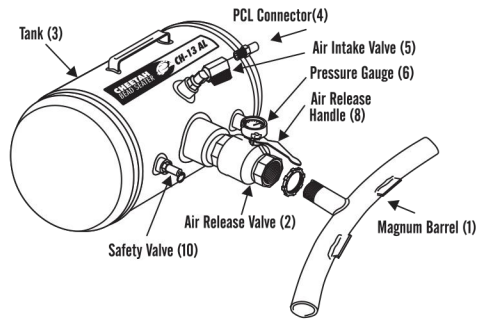

Figure 1 - Cheetah Bead Seating Tool - Major Components
Check the Cheetah has arrived in good condition, with no signs of shipping damage, and that you can identify each of the parts named in figure 1. The Cheetah should arrive fully assembled except for the barrel (1) which must be fitted before use. To fit the barrel (1), thread it firmly onto the